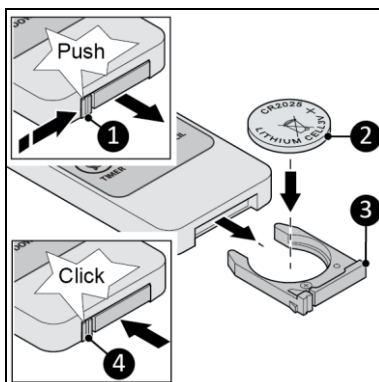

Figure 8
1. Press the tab (Figure 8, pos. 1) and remove the battery compartment from the remote.
3. Insert a CR2025 battery as indicated (Figure 8, pos. 2). Insert the battery correctly.
4. Slide the battery compartment back until the tab snaps into place (Figure 8, pos. 4).
5. Remove the battery from the remote (Figure 8).